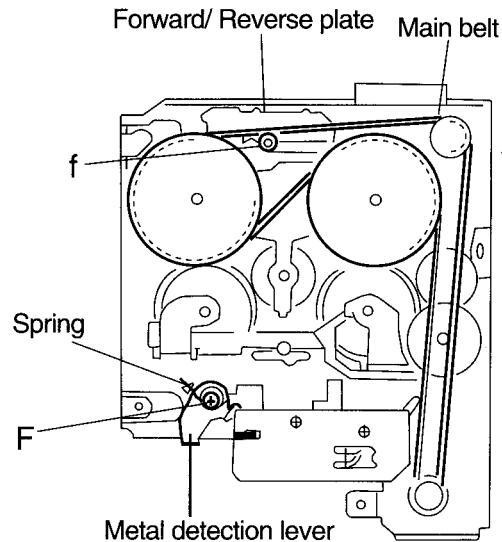

Fig. 8
■ Removing the Head Plate (See Fig. 8,9)
7. Remove the two screws F fixing the metal detection lever and removal spring as shown in Fig. 8.